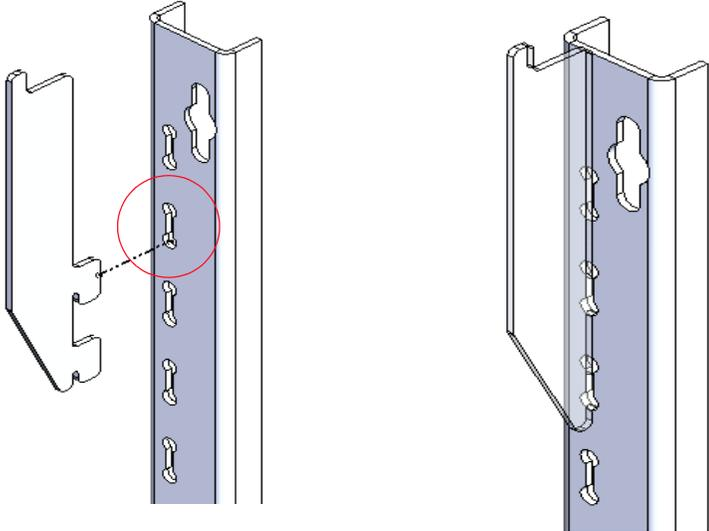

Figure 3. Rear 2x shelf support arrangement (Skip top-most slot and use next two slots)
Step 2: Place the rear clips as shown in Figure 3.